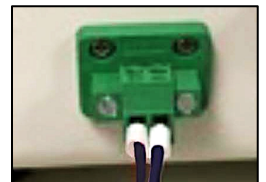

Figure 1
1. To activate this feature, install the pair of wires from the dry contact switch closure device into the terminal block (Figure 1)